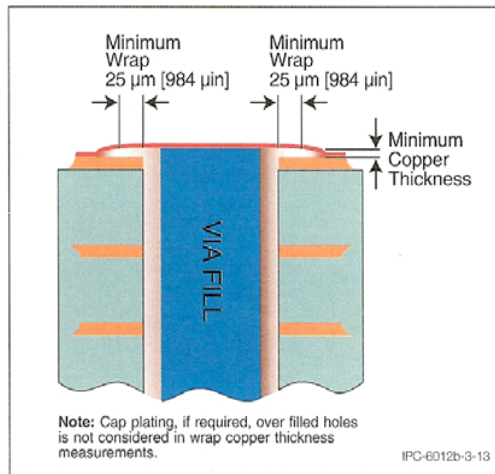
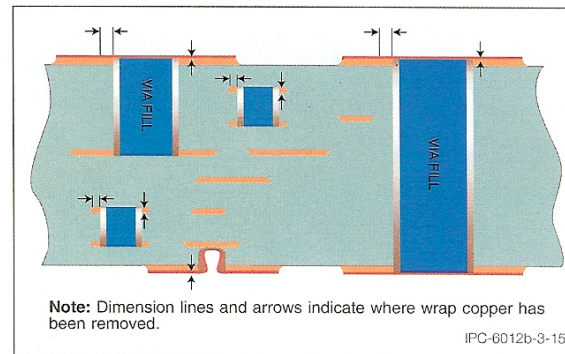

Figure 3-13 Surface Copper Wrap Measurement
Figure 3-15 Wrap Copper Removed by Excessive Sanding/Planarization (Not Acceptable)
3.6.2.11.1 Copper Wrap Plating Copper wrap plating minimum as specified in Table 3-2 **shall** be continuous from the filled plated hole onto the external surface of any plated structure and extend by a minimum of 25 µm [984 µin] where an annular ring is required (see Figures 3-13 and 3-14). Reduction of wrap-plating by processing (sanding, etching, planarization, etc.) resulting in insufficient wrap plating is not allowed (see Figure 3-15).
Add new Figure 3-13 as follows:
Add new Figure 3-15 as follows: